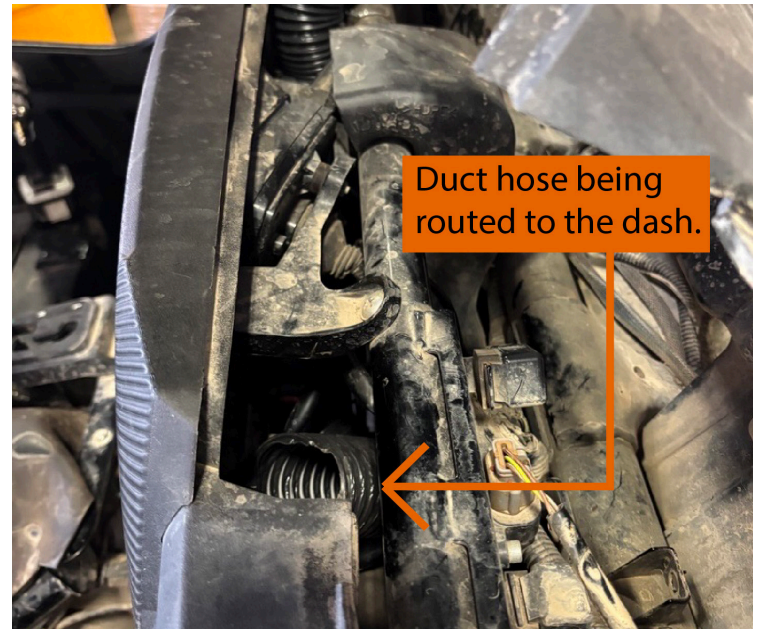

FIGURE 4
9. Route the 8" compressed hose from the center console to the passenger side upper dash. FIGURE 4